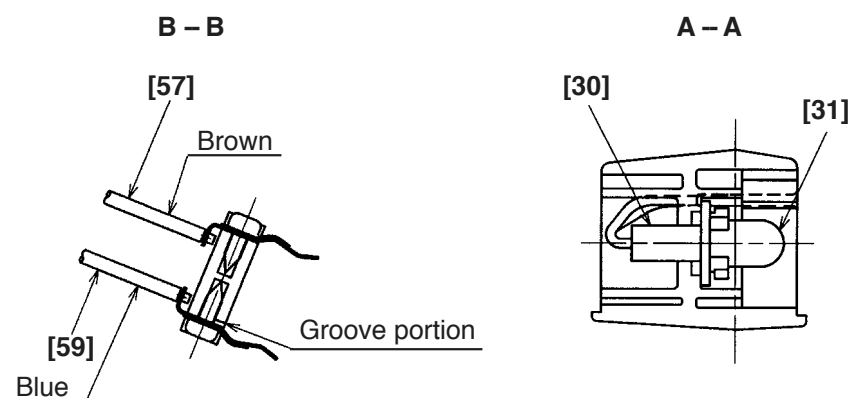

Fig. 8
(c) Connect the internal wires as illustrated in Fig. 8. Mount the Knob [55], Terminal (A) [54] and Spring (F) [53] without fail.